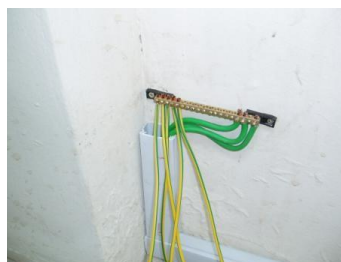

Fig. 3.2 Earthing Busbar
2. Next position 3 floor pedestals in a line as seen in Fig 3.2, above.